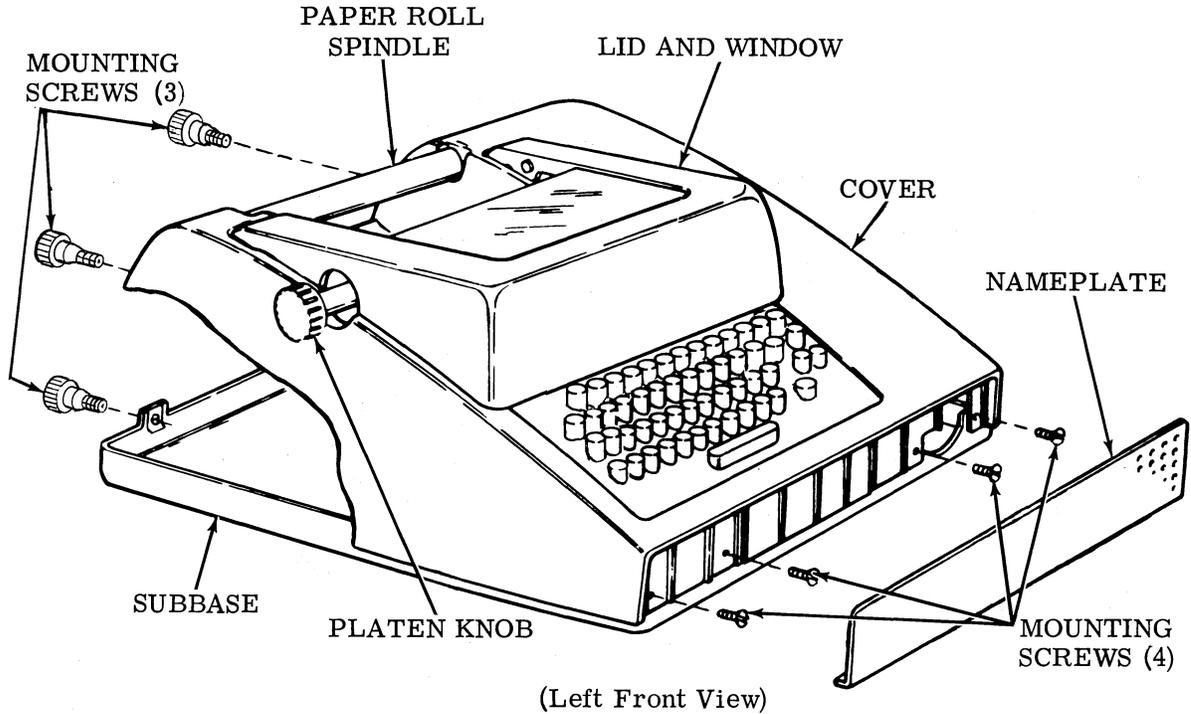

Figure 2 - Cover Mounting
1.10 Remove the call control bezel, if used, after removing its two mounting screws. Remove volume control knob or power switch rotary knob, if used, by pulling knob forward. Detach the nameplate (Figure 2) by pulling it down and out. Remove the four front and three rear cover mounting screws.